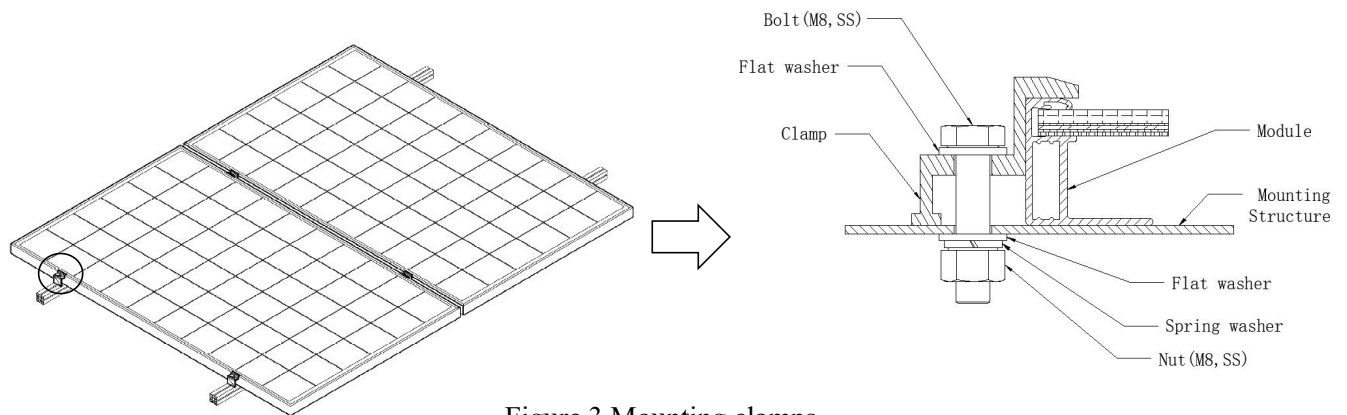

Figure 3 Mounting clamps
- Clamping system: use proper clamp, and fix the module with the installation support, as shown in Fig. 3.